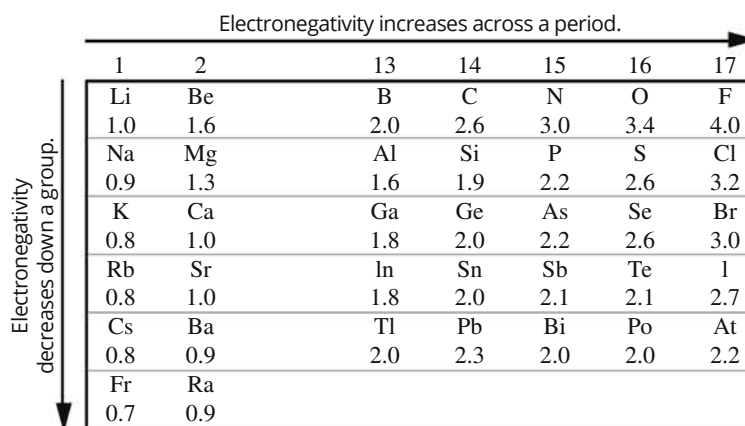

FIGURE 2.2.5 The electronegativity of elements generally decreases down a group and increases across a period, from left to right.
Electronegativity is the ability of an atom to attract electrons towards itself. The more strongly the valence electrons of an atom are attracted to the nucleus of the atom, the greater the electronegativity. Therefore, the greater the core charge of an atom, the greater the electronegativity. Figure 2.2.5 shows the electronegativity of many of the main group elements.
- 3 Figure 2.2.5 gives electronegativity values for the elements in groups 1, 2 and 13–17 of the periodic table.